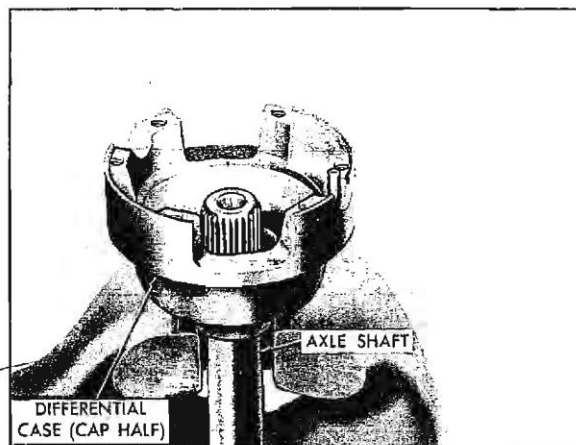

Fig. 4-50 Axle Shaft and Cap Half of Case
4. Place one spring block in position over gear face in alignment with pinion gear shaft grooves. Install thrust block, pinion shaft, pinion gears, and thrust washers into cap half of differential case in such a manner that pinion shaft retaining dowel can be inserted through pinion gear shaft into differential case. This prevents the pinion shaft from sliding out and causing damage to carrier assembly (Fig. 4-50).